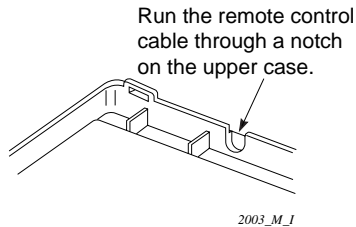
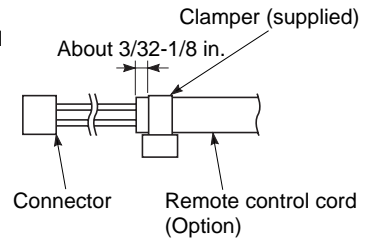

Fig. 7-15
Fig. 7-16
- (2) The wire routing at the signal receiving unit comes out of the upper case (thin portion at upper center) so use nippers or a similar tool to cut out a notch beforehand large enough for the remote control cable (option) to pass through as shown in Fig. 7-15.
- (3) Remove the wire which is connected prior shipping from the connector.
- (4) Connect the remote control cable (option) to the signal receiving unit connector shown in Fig. 7-16 after the clamber (supplied) with the unit is installed.